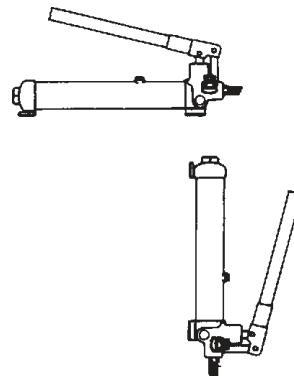

Figure 2 - Horizontal and Vertical Position.
3. Pump may be used in horizontal and vertical position as illustrated in Figure 2.